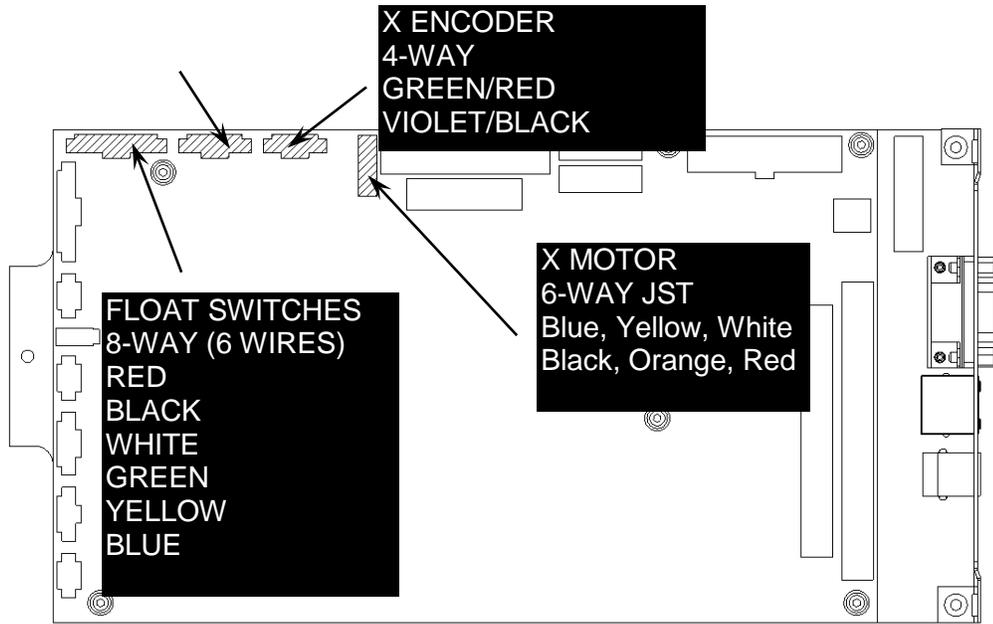

Figure 14-9: Cable Connections, Part 2
2. Plug the connectors from the Float Switch Harness, X Home, X Encoder and X Motor (Figure 14-9).